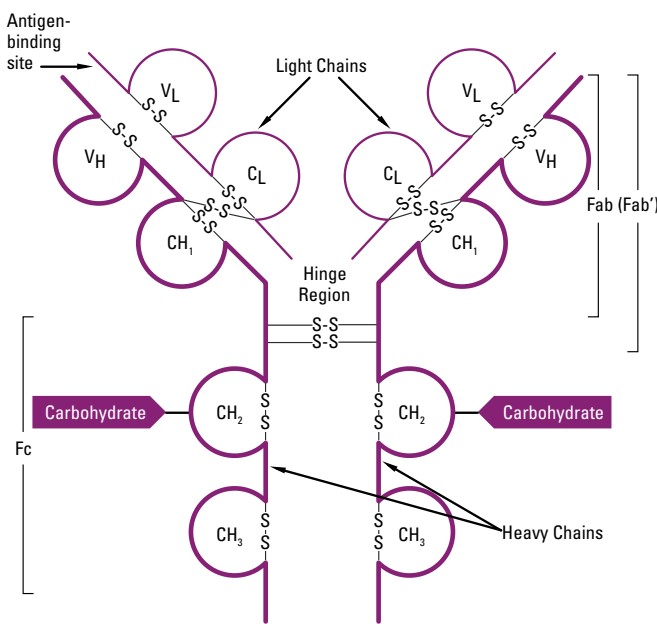

Figure 1. Structure of an immunoglobulin.
Antibody (or immunoglobulin) molecules are glycoproteins composed of one or more units, each containing four polypeptide chains: two identical heavy chains (H) and two identical light chains (L) (Figure 1). The amino terminal ends of the polypeptide chains show considerable variation in amino acid composition and are referred to as the variable (V) regions to distinguish them from the relatively constant (C) regions. Each L chain consists of one variable domain V_L and one constant domain C_L. The H chains consist of a variable domain, V_H, and three constant domains CH₁, CH₂ and CH₃. Each heavy chain has about twice the number of amino acids and MW (~50,000) as each light chain (~25,000), resulting in a total immunoglobulin MW of approximately 150,000.